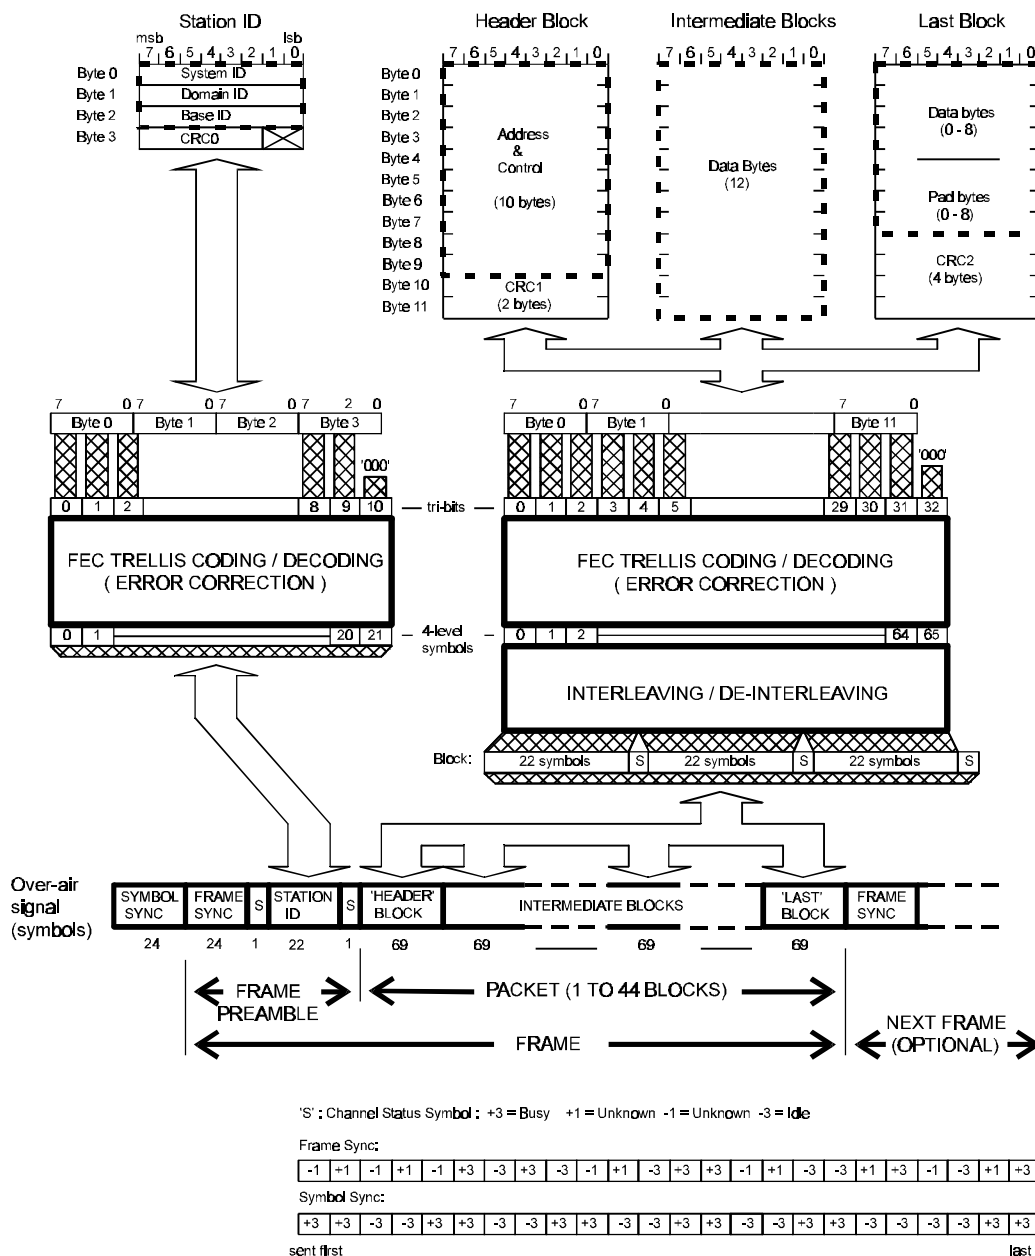

Figure 5b RD-LAP Over Air Signal Format
The CMX969 Frame Structure in RD-LAP mode is illustrated in Figure 5b, and consists of a Frame Preamble (comprising a 24-symbol Frame Synchronisation pattern and Station ID block) followed by one or more 'Header' blocks, one or more 'Intermediate' blocks and a 'Last' block. Channel Status (S) symbols are included at regular intervals. The first Frame of any transmission is preceded by a Symbol Synchronisation pattern.